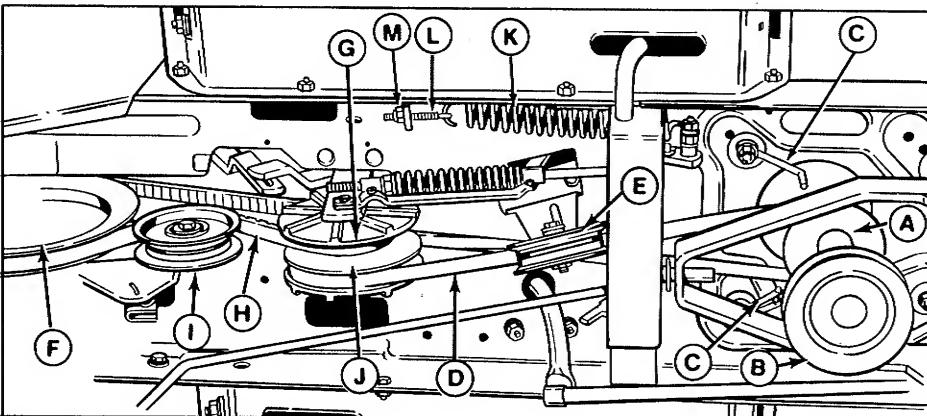

Figure 20. Belt Replacement
3. Pull downward on the rear idler pulley (I, figure 20) and slip the rear belt (H) off.
5. Slip the front belt (D) off the variator pulley (G).
6. Loosen up the idler pulley (E) mounting hardware enough so the belt can be slipped from the pulley and belt stop and slip the belt off.